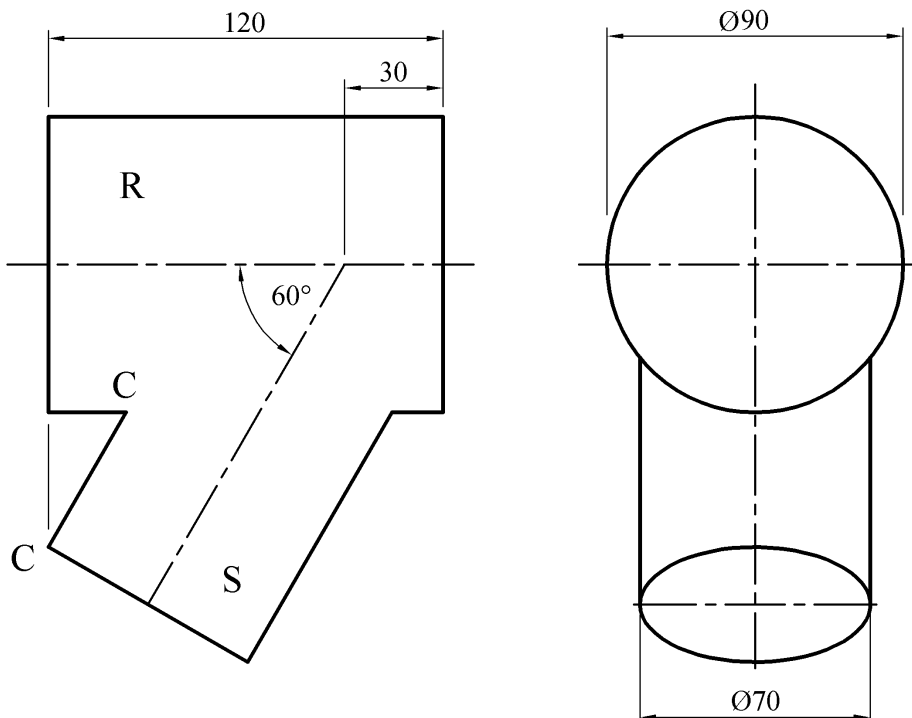

Fig. 2
2. The incomplete elevation and end elevation of two intersecting pipes of unequal diameter are shown in Fig.2.